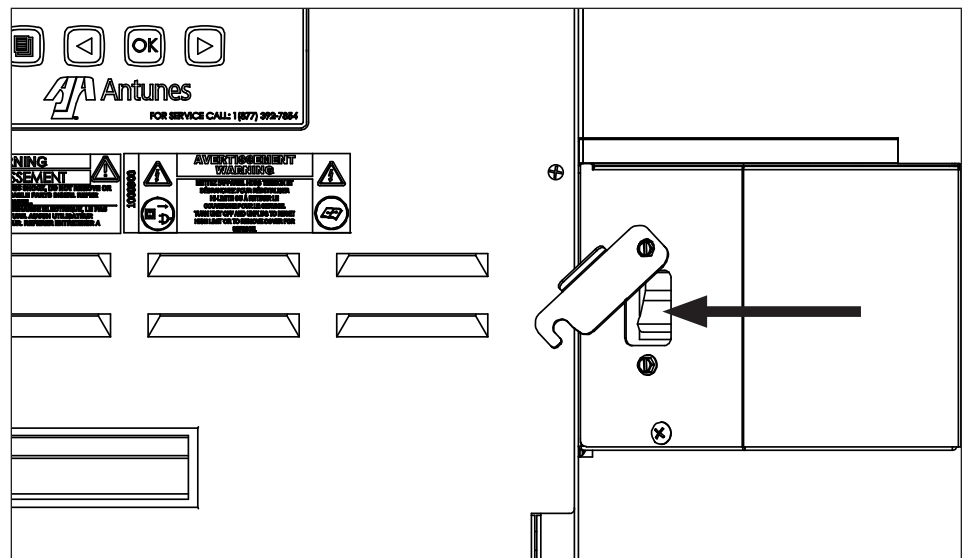

Figure 2. Motor Rocker Switch Location
2. Loosen the bottom screw and rotate (open) the switch cover to expose the rocker switch on the motor cover (Figure 2).
3. Insert product into the designated area of the Feeder with the cut side facing UP. Toasted product drops into the Tray (Figure 2).